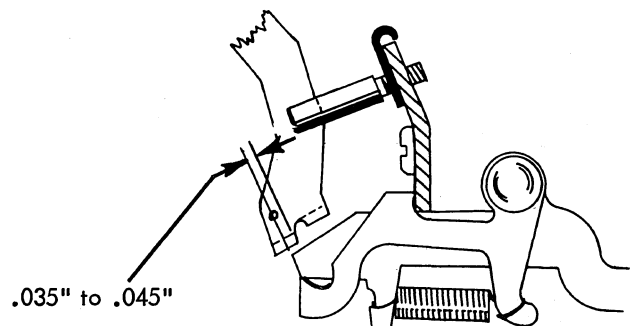

FIGURE 111. Keylever Pawl Overlap Adjustment
1. Keylever Pawl Overlap - Adjust each keylever pawl guide stud so that all the keylever pawls overlap their respective interposers by $.035''$ to $.045''$ with both parts at rest (Fig. 111).